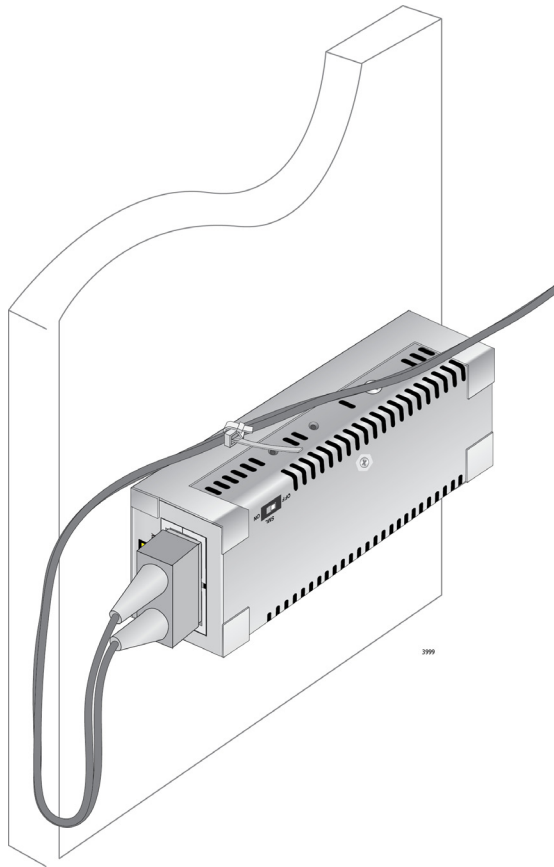

Figure 25. Securing the Cable Tie
5. Secure the fiber optic cables to the media converter using the cable tie (included with the separately purchased wall-mount bracket) as described below and shown in Figure 25: